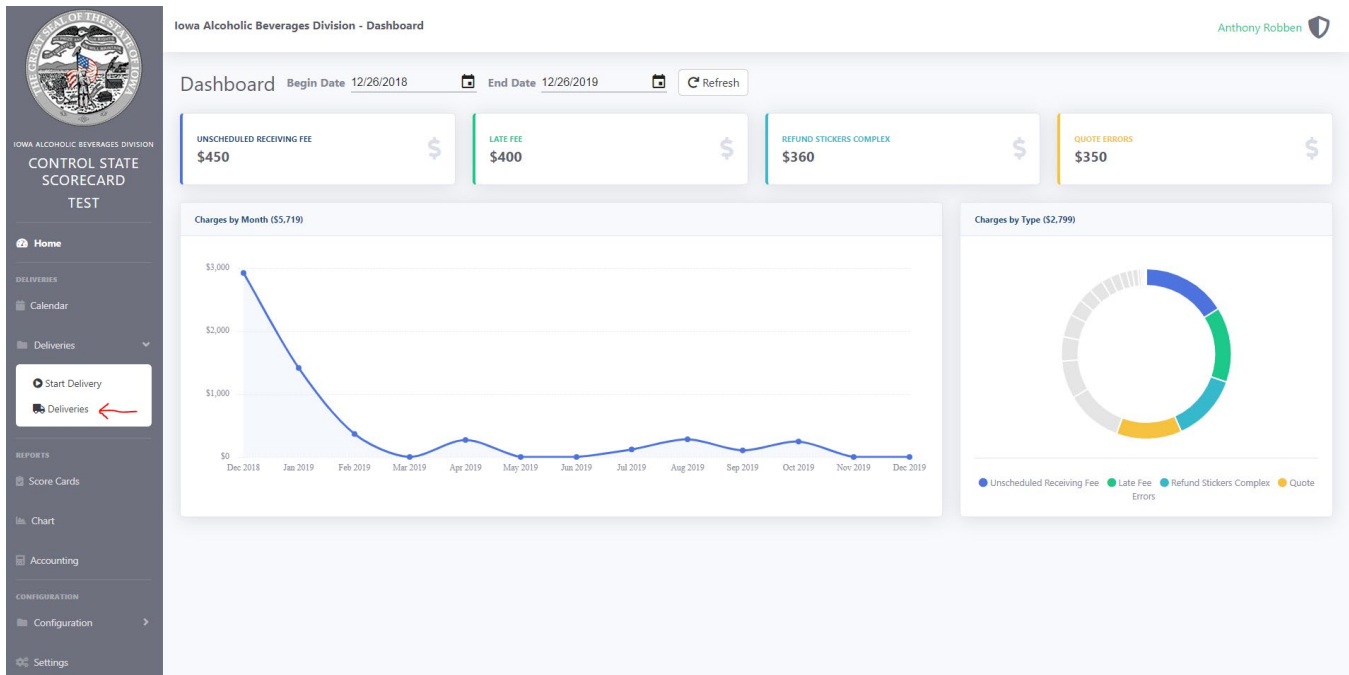

Figure 5; Deliveries
- **Deliveries (View only for Vendors):** In this section the Control State Admin and Vendor to review Deliveries inputted in the system. High-level information is readily available and the Control State Admin can filter the information to look for specific information given many different conditions (see Figure 5).
- **Delivery Data Input (Control State Only):** The Delivery Data Input can be done by either selecting Start Delivery in the selection bar on the left side or Deliveries in the same section under Deliveries (see Figure 5 or Figure 6). While in Deliveries, a delivery can be inputted by selecting the three dots located below the search bar on the right side of the screen above the data output.